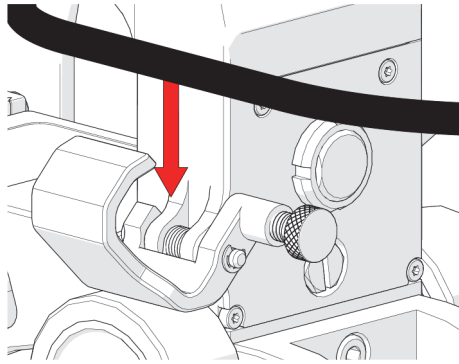

Figure 2-11 Open clip and place cables and hoses
3. Open the cable management clip and place cables and hoses in the clip as required (see Figure 2-11 on page 45).